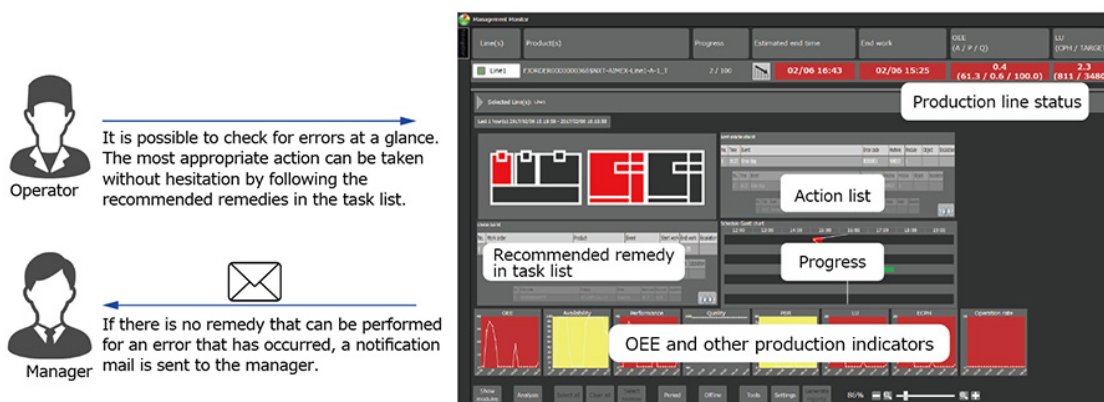

Figure 7. A dashboard conveys critical production status information.
**Management.** The system presents visual information necessary for management, including the progress status of the entire production floor, the state of production lines and equipment, and the occurrence of pickup errors (Figure 7). Using the board ID or panel ID as a key, traceability data, including SPI and AOI inspection images, is provided immediately.